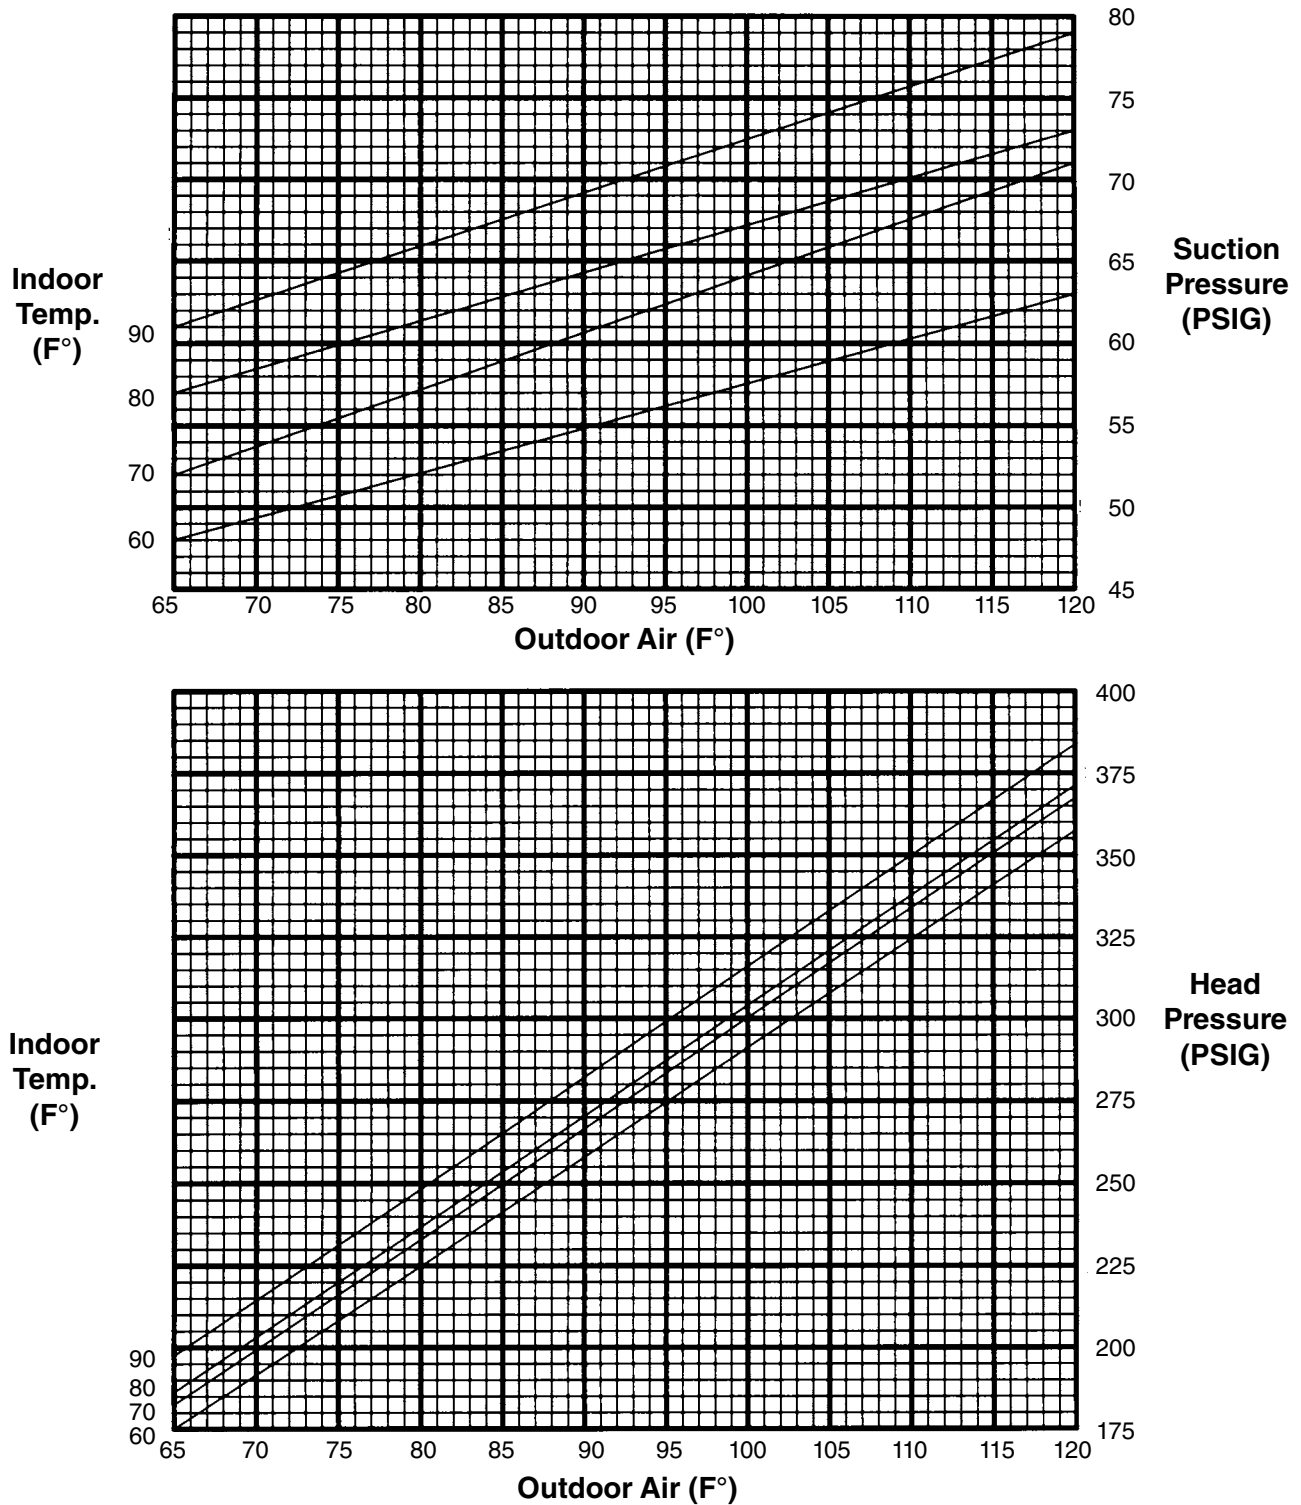

Figure 7a. Charging Pressure Charts
6. Start the unit and observe the system pressures. Use the Cruisair charging pressure charts, Figure 7a or 7b to determine the proper pressures. These charts are to be used as a guide to setting pressures. **They are not designed to give exact pressure settings.** There are conditions that may cause pressures to vary. Head pressures may vary $\pm 10\%$. Suction Pressure settings are more critical ($\pm 5\%$) for functioning of the system. Through the gauge manifold, adjust the gas charge to obtain the proper system pressures.